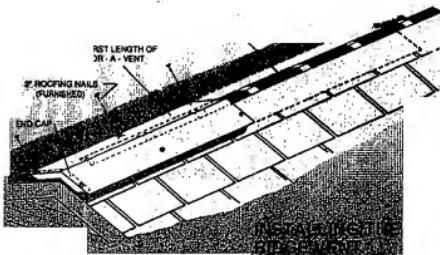

FIG. 4
One person can easily handle the installation using only a hammer, roofing knife and caulking gun. Fit a metal end cap over the end of the first (and last) piece of Cor-A-Vent. Lay a bead of caulking on the under side of the end cap, press the piece and cap into position and nail (with 2 inch nails provided) through the end cap, the Cor-A-Vent and into the roof sheathing, as shown in figure 4. Drive the nails down flush so that the vent and cap are held down firmly but do *not* indent by over driving. Butt each successive piece up snugly, checking for straight alignment. Use two nails in each end and one at each side at center, pulling up slightly when nailing second side to insure that the vent is nailed at the same pitch as the roof.
- (2.) Have end caps been installed at both ends of the ridge? Look to see if they have been properly nailed in place and caulked as described in the installation on page 4, figure 4.